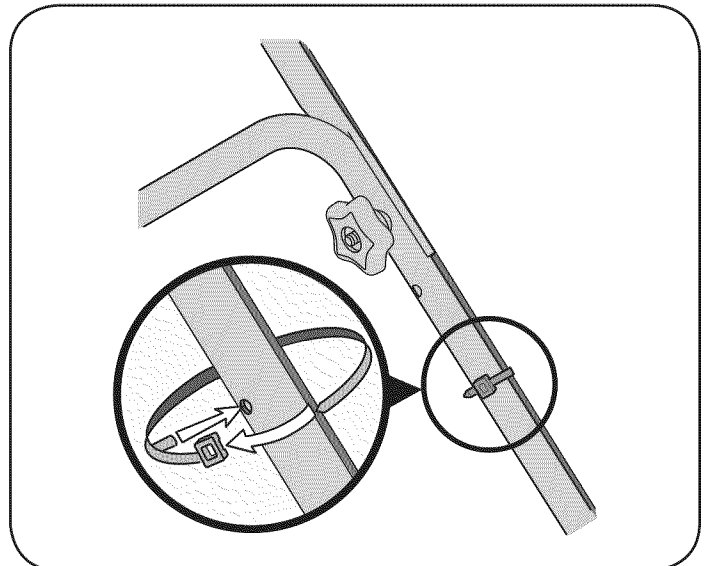

Figure 4
4. Attach cables to the lower handle with the cable ties already on the lower handle. Insert pegs on cable ties into the holes on the lower handle. See Figure 4. Pull cable ties tight and cut off the extra.